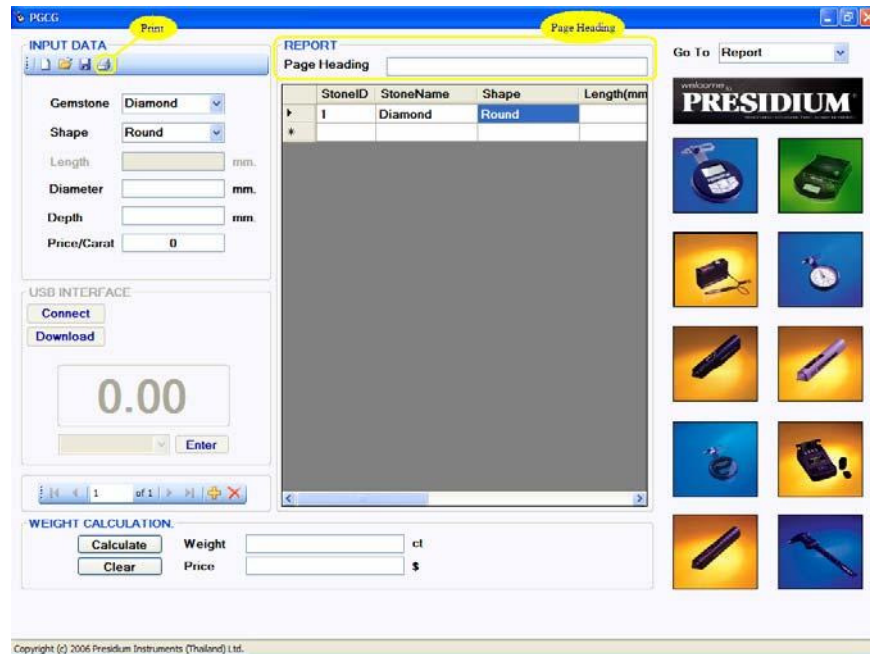

Figure 2.22
- User is able to print report by pressing () in the DATA INPUT section. Before pressing (), user can first enter the name of the report to be printed in the “Page Heading” at the REPORT section. Please refer to Figure 2.22.